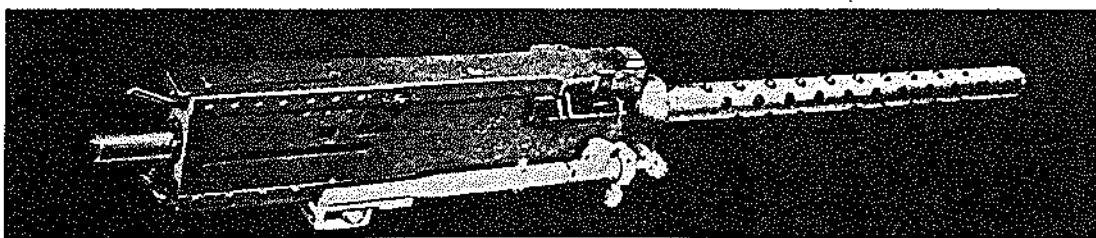

Figure 31C.—Gun Installed
- (h) Place spacers between front mounting holes of gun and piston rod eyes as illustrated in Fig. 31C.